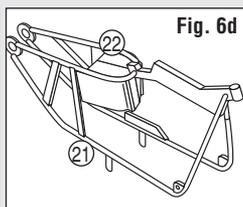

Fig. 6d
- Glue Bike Frame Sides ⑳ and ㉒ together (Fig. 6d).